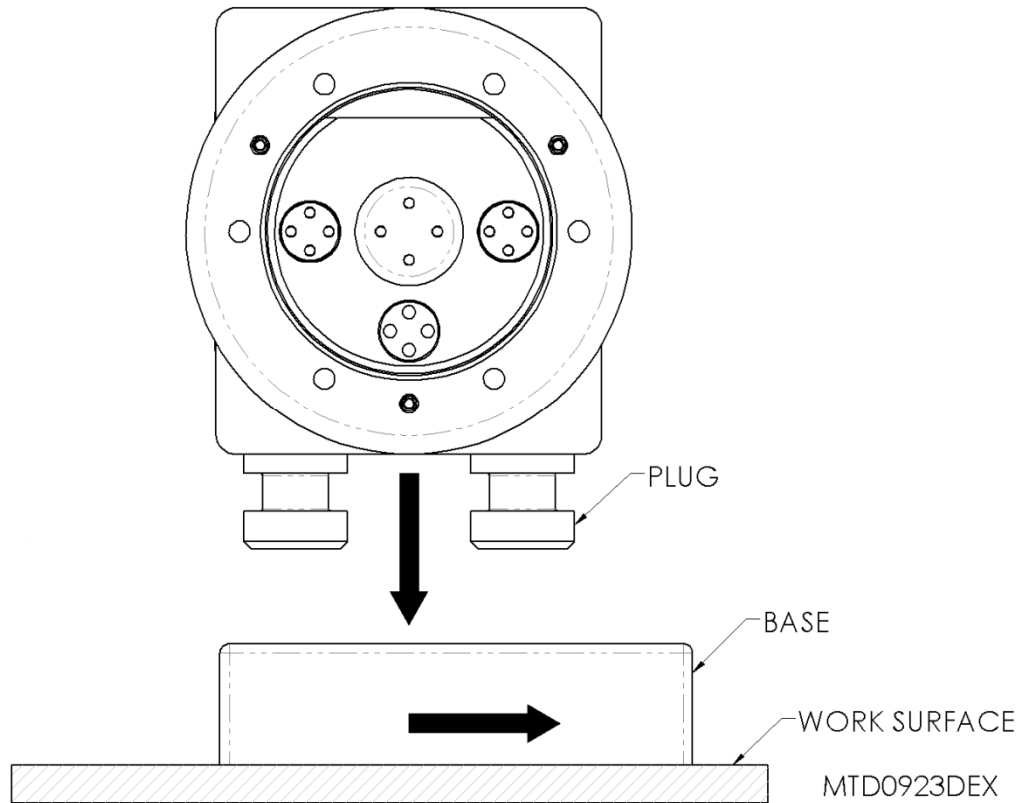

Figure 6-3: Rebuild Fixture Mounting
- Install mounting plugs in pump fluid ports and lock body into bench mounting fixture as shown in figure 6-3.